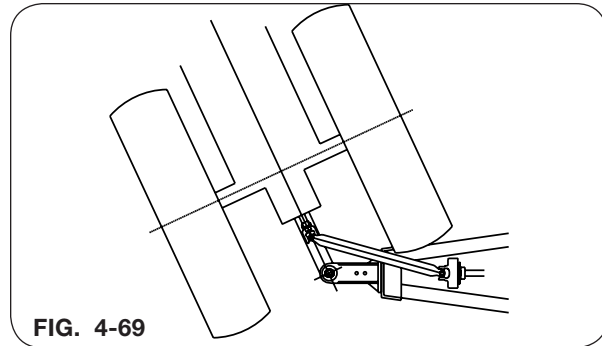

FIG. 4-69
6. Position the tractor to obtain the tightest turning angle, relative to the cart. (Fig. 4-69)